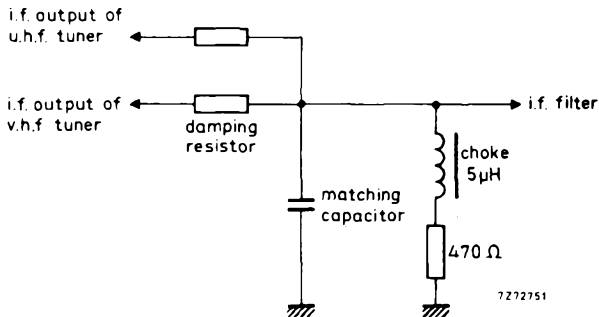

Fig. 12.
The tuner needs a d.c. path from the i.f. output terminal (T) to earth, preferably via a choke of approx. $5\ \mu\text{H}$ outside the tuner (Fig. 12). Where the tuner is used in combination with a u.h.f. tuner, this choke can be common for both tuners; a resistor in series with the choke can make ineffective the i.f. output circuit of the switched-off tuner. For damping the i.f. output circuit and matching the i.f. output impedance of the tuner to the i.f. amplifier, a series resistor and a parallel capacitor as shown in Fig. 12 should be used (During v.h.f. operation the voltage across the $470\ \Omega$ resistor is 1 to 1,2 V.)